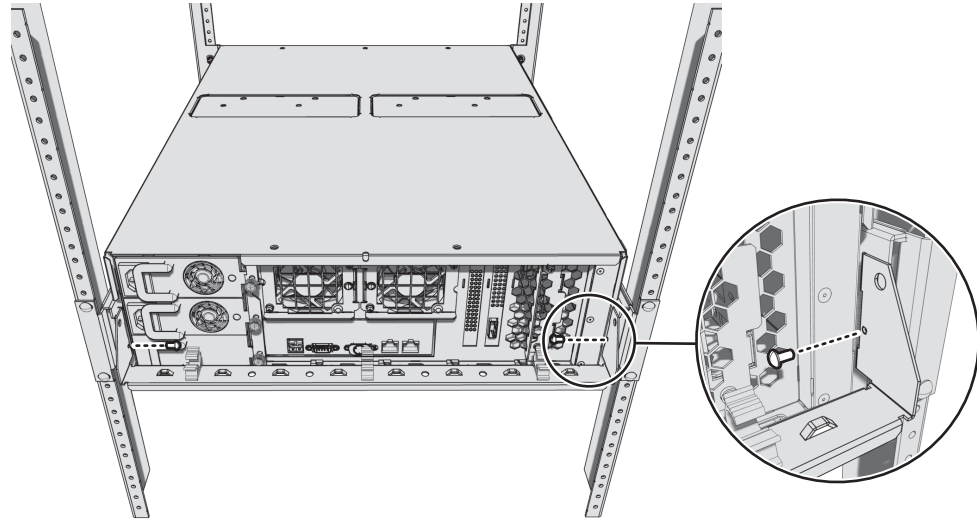

Figure 16. Attaching the Cable Management Bracket
13. Install the cable management bracket on the rear panel of the unit as follows (refer to Figure 16):